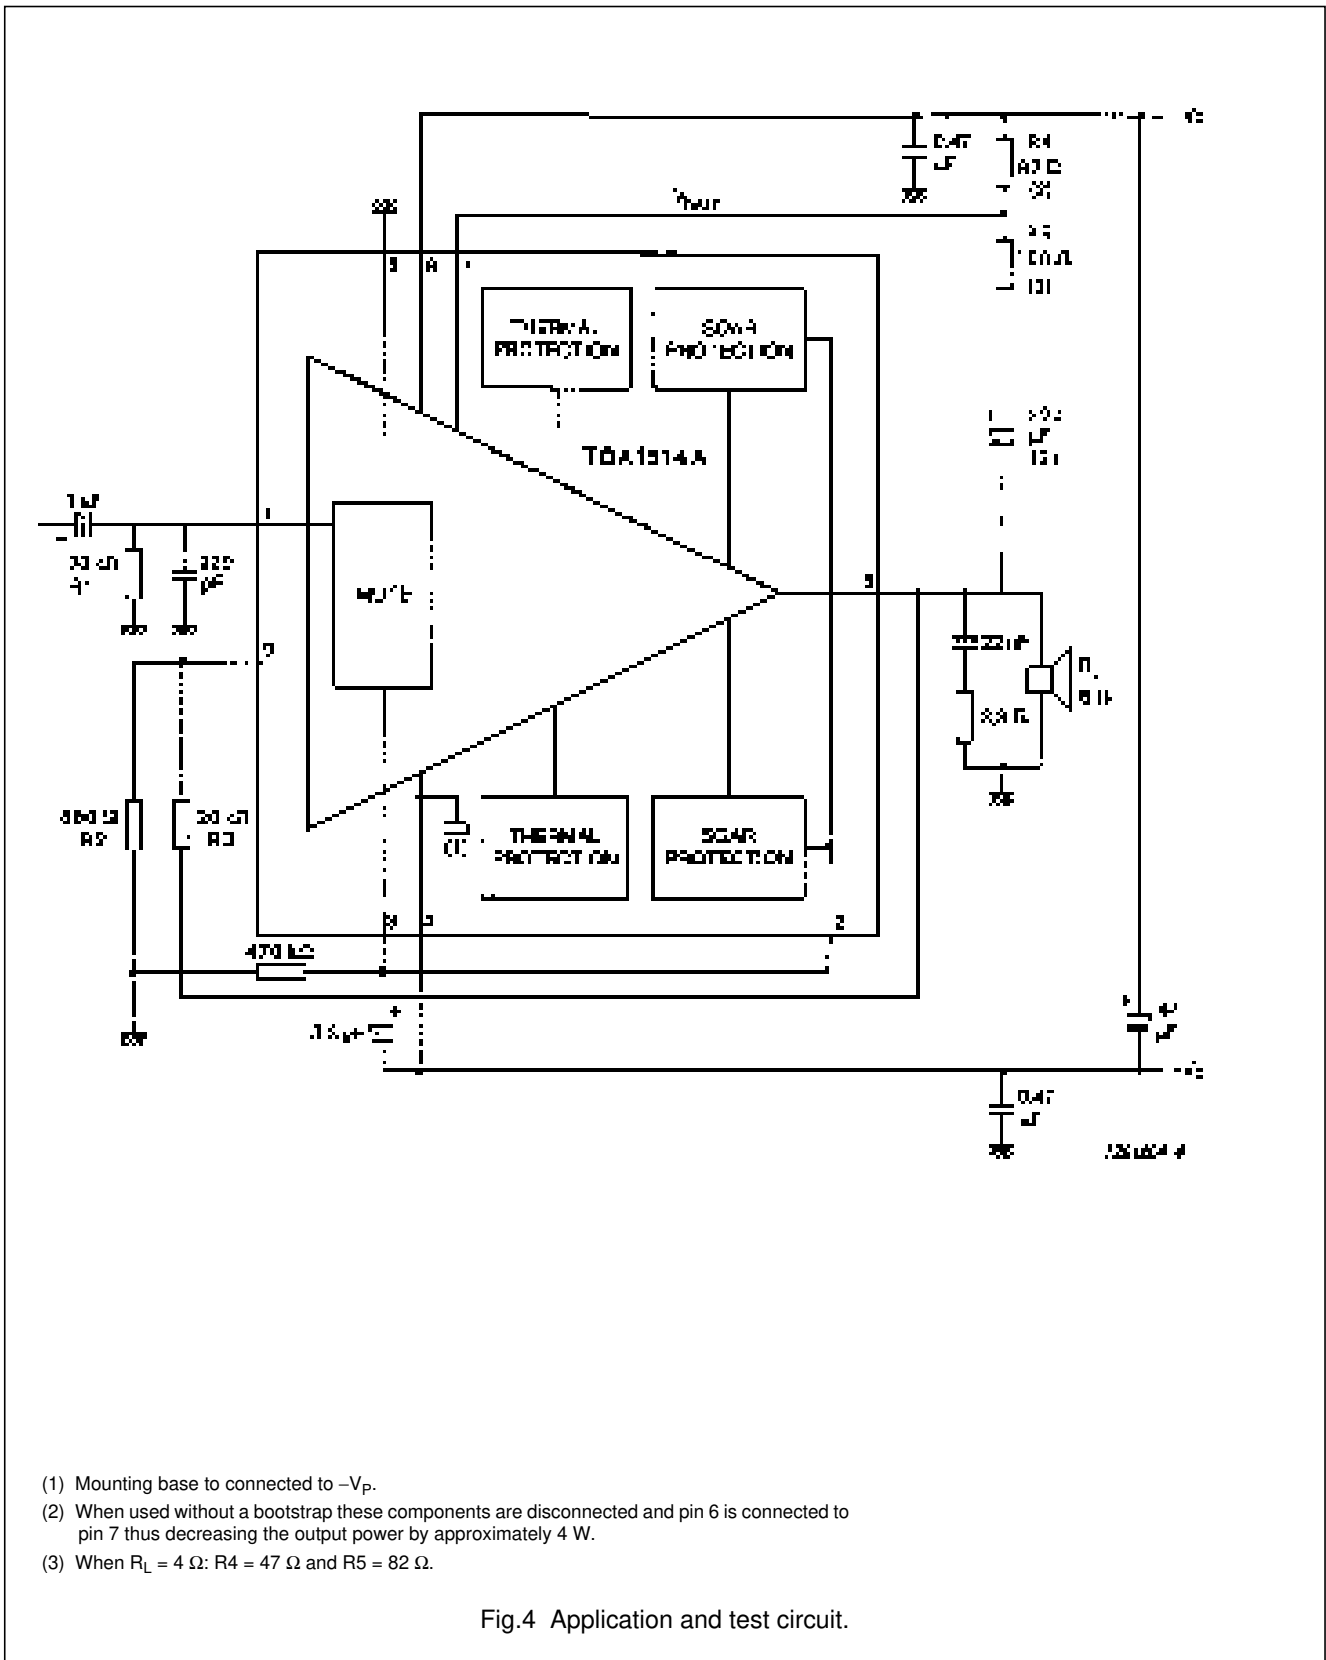

Fig.4 Application and test circuit.
$V_P = \pm 27.5$  V;  $R_L = 8 \Omega$ ;  $f = 1$  kHz;  $T_{amb} = 25$  °C; test circuit as Fig.4; unless otherwise specified.
2. The closed loop gain is determined by external resistors (Fig.4, R2 and R3) and is variable between 20 and 46 dB.
3. The input impedance in the test circuit (Fig.4) is determined by the bias resistor R1.